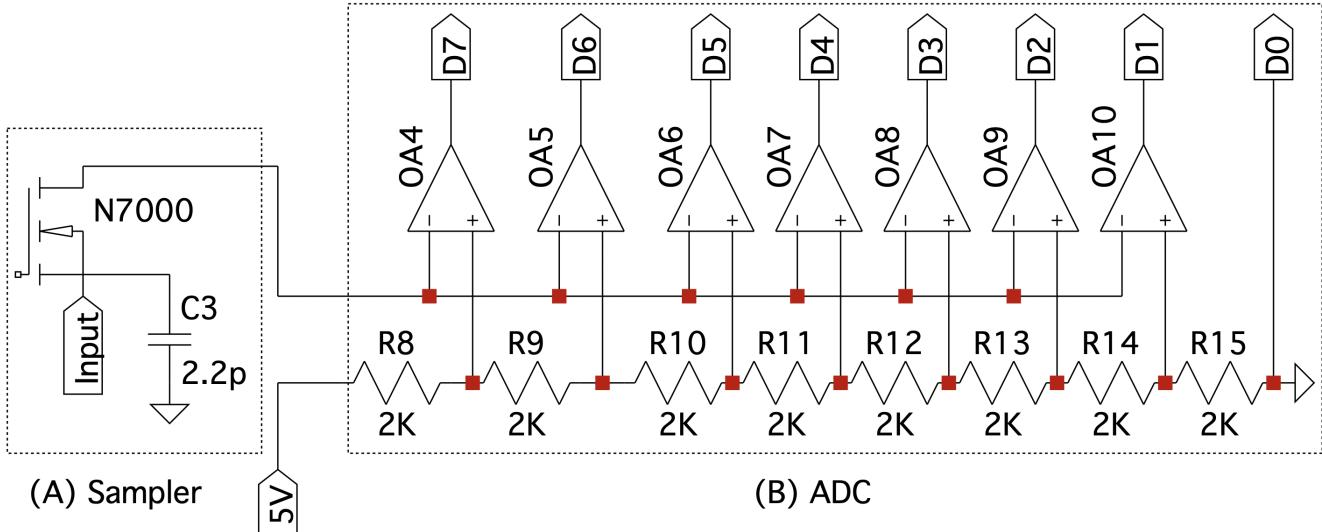
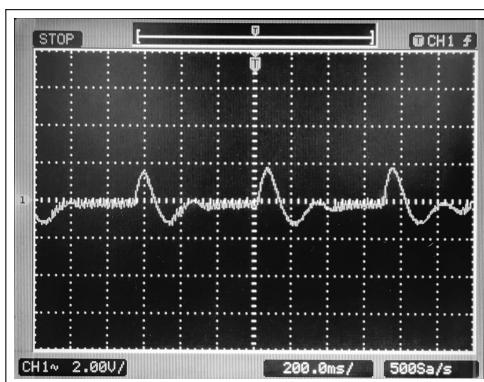

Figure 3
Figure 4
A MOSFET (N7000) and Capacitor of Capacitance 2.2pF is used to sample the signals. The sampler digitizes the given analog signal and holds the signals for ADC. The sampler can be circuited as in Fig.3 (A). The output observed after passing through sampler is Fig.4
In order to design ADC, 2 LM324N (7 OPAMP) and 8 resistors of resistance 2KΩ is used. ADC can be circuited as in Fig.3 (B).